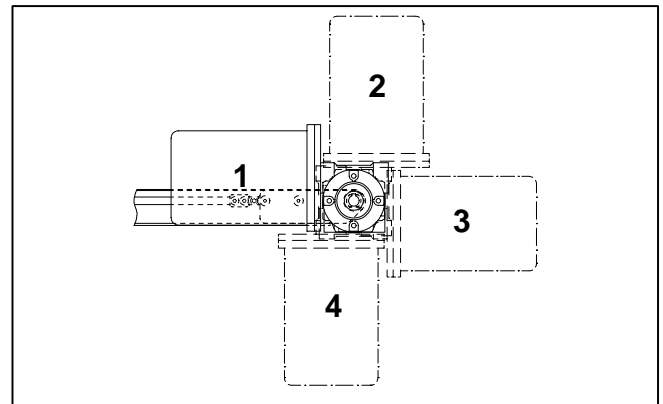

Figure 3
NOTE: Gearmotor may be operated in positions 1, 2, 3 or 4 (Figure 3).
2. If required, change gearmotor position by removing four (4) screws (I of Figure 4). Rotate gearmotor to other position (Figure 3) and replace screws (I). Tighten to 100 in-lb (12 Nm).